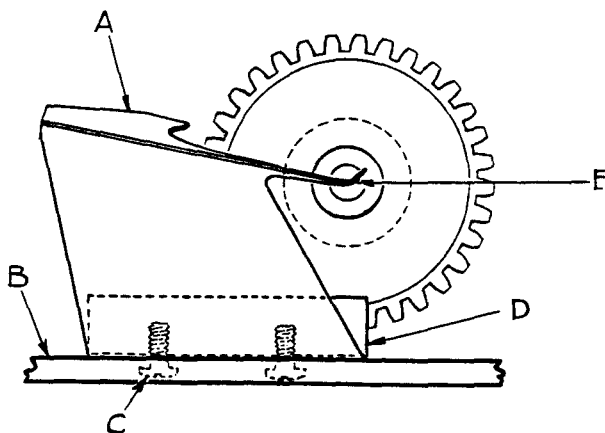

Fig. 5
Lubrication of the mechanism below the bed plate is automatically accomplished through the feed driving shaft which is tubular. Oil is introduced into the shaft at the gear end by means of an oil distributing plate (A, Fig. 5) which is secured to the large gear case cover (B) by means of two screws (C) and retaining block (D).